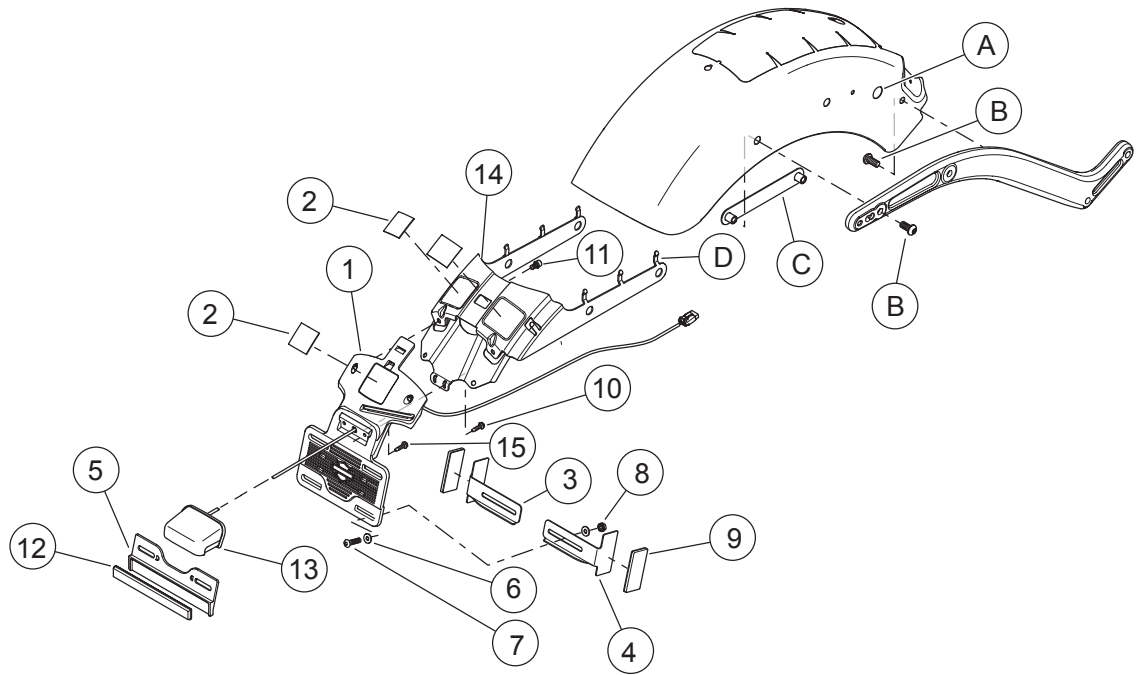

Figure 2. Service Parts: License Plate Relocation Kit
See Figure 2 and Table 2.
- See Figure 2. Place license plate bracket assembly into position and install fender mounting brackets (C).
- Route wiring through hole (A) to outside of fender.
- Install **new** cable strap securing wiring to fender between last wire retainer (D) and hole (A).